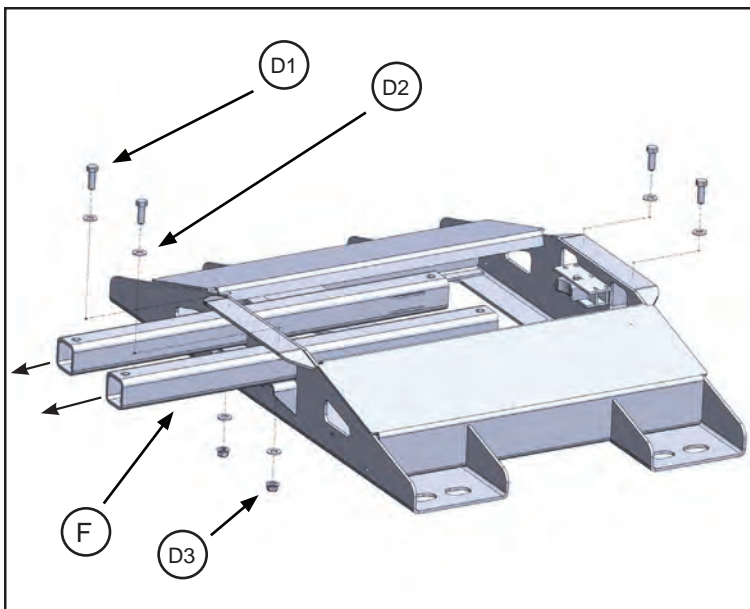

Figure 2
3. Remove the four 1/2" Way Tube Bolts {D1} that fasten the Way Tubes to the base of the hitch. Retain the bolts, flat washers {D2}, and flange nuts {D3} (see Figure 2).
4. Pull both way tubes from the forward bulkhead by pulling them both toward the rear (tailgate end) of the hitch enough to where they are free from the front end (see Figure 2).